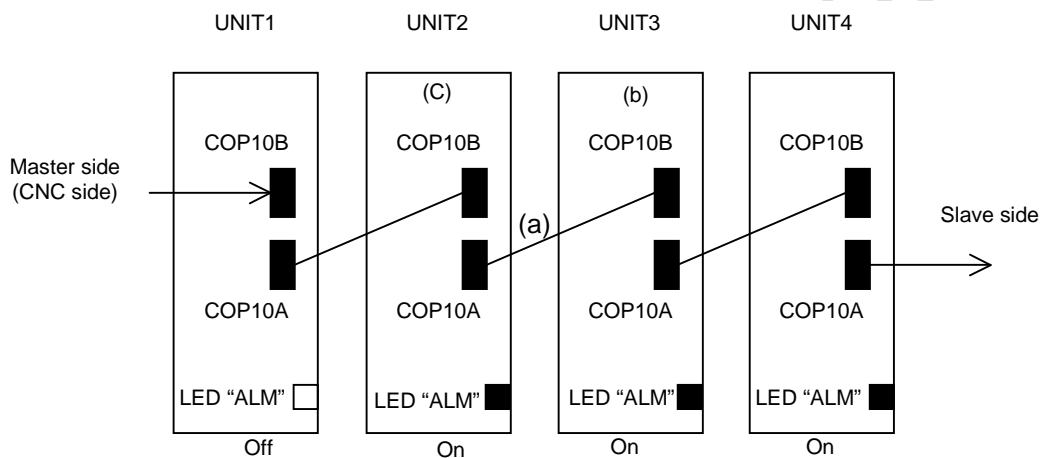

Fig. 3.1.10
- (2) Cause and troubleshooting
- (a) Replace the optical cable (COP10A) of the β iSV that is nearest to the CNC among the amplifiers on which the ALM LED is lit (in Fig. 3.1.10, the cable between UNIT2 and UNIT3).
- (b) Replace the β iSV that is the second nearest to the CNC among the amplifiers on which the ALM LED is lit (in Fig. 3.1.10, UNIT3).
- (c) Replace the β iSV that is nearest to the CNC among the amplifiers on which the ALM LED is lit (in Fig. 3.1.10, UNIT2).